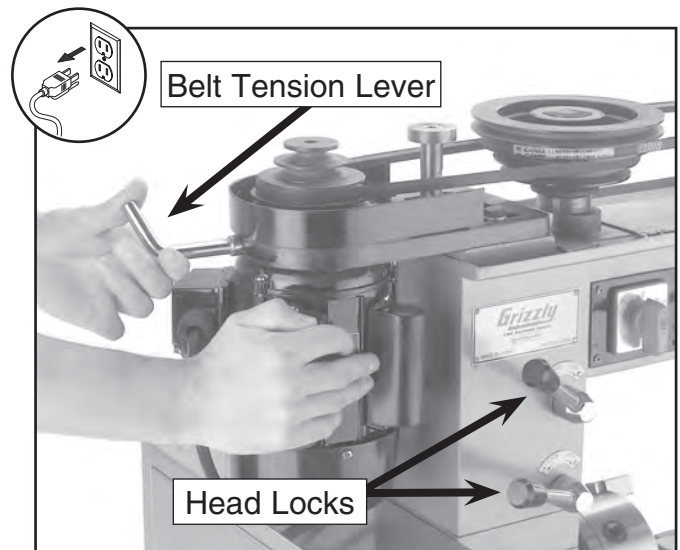

Figure 56. Loosen stud to pivot motor and tension the belt.
2. Remove the upper belt guard and loosen the belt tension lever as shown Figure 56.
2. Loosen the head lock handles shown in **Figure 56**.